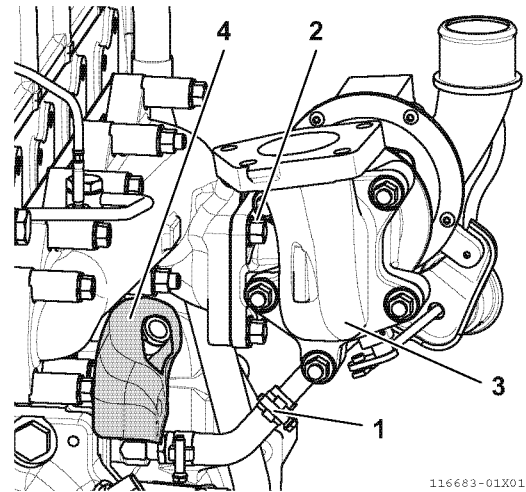
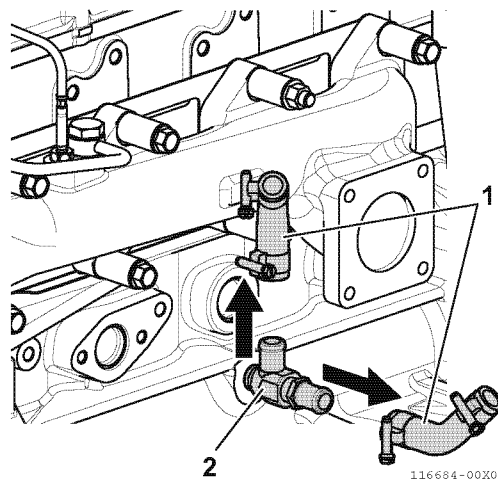

Fig.24-11
Fig.24-12
- 3 - Loosen the hose clips (1, Fig.24-11) that fasten the lubricating oil return hose of the high-pressure stage turbocharger (lower side).
- 4 - Loosen the mounting nut (2, Fig.24-11) of the turbocharger and exhaust manifold, and remove the turbocharger (lower side) together with the exhaust pipe (3, Fig.24-11).
- 6 - Remove another heat shield cover (4, Fig.24-11) of the lubricating oil hose as necessary, and remove the lubricating oil hose (1, Fig.24-12). In this case, use tape or other means to block the joint (2, Fig.24-12) to prevent dust or other foreign matter from the cylinder block.